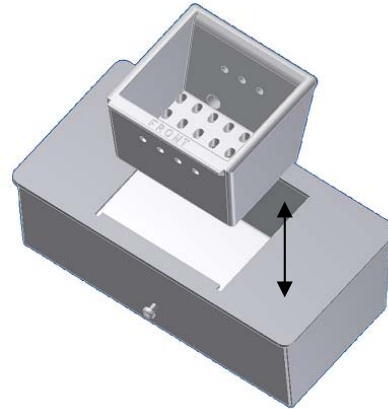

FIGURE 16
- b. Remove the burnpot's inner section by grasping it and pulling straight up (see Figure 16).